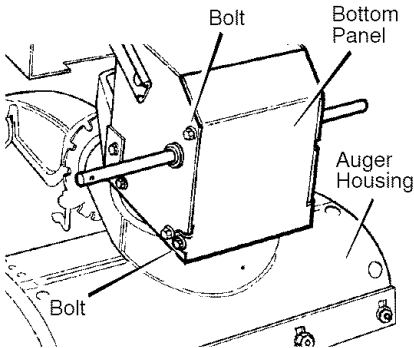

Figure 38
2. Loosen the **bolts** on each side of the **bottom panel** (see Figure 38).
18. Install the **bottom panel** (see Figure 38).
11. Install the **bottom panel** (see Figure 38).